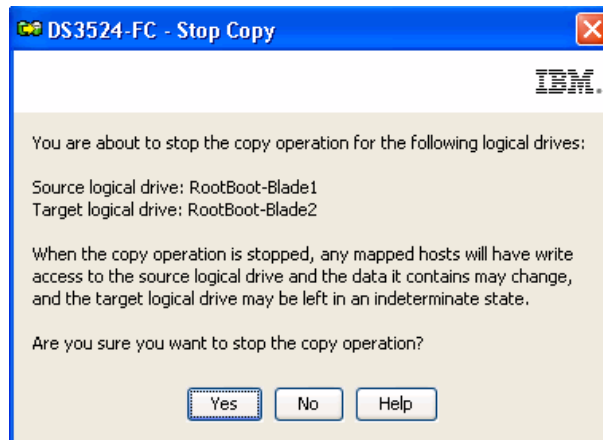

Figure 3-22 Stop Copy dialog
4. The Stop Copy dialog opens, as shown in Figure 3-22. Read the information. Click **Yes** to proceed. The VolumeCopy is stopped.